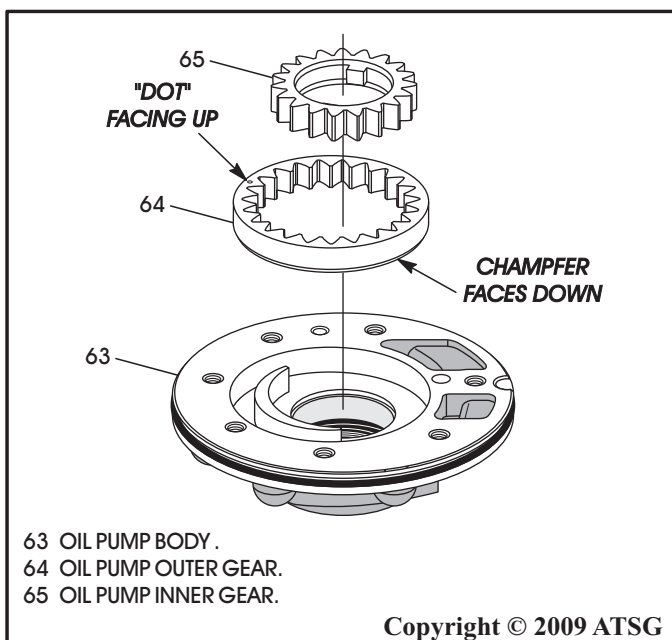

Figure 67
15. Install the oil pump outer gear with the "dot" facing up, or the chamfer facing down, as shown in Figure 67.
16. Install oil pump inner gear in either direction, as shown in Figure 67.